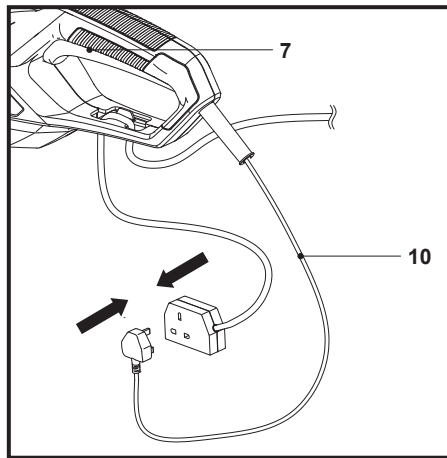

Fig. 3
3. Connect the power cord (10) to the socket of the extension cord (Fig.3).